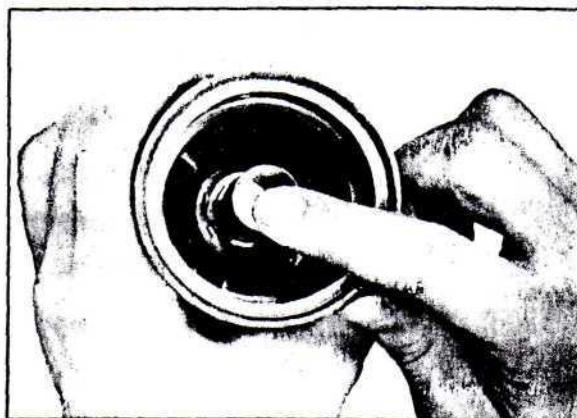

FIGURE 12
5. Check whether piston tube is properly sealed by placing index finger on end of tube and, without force, attempt to wiggle (Figure 12). There should be no movement of the piston tube.